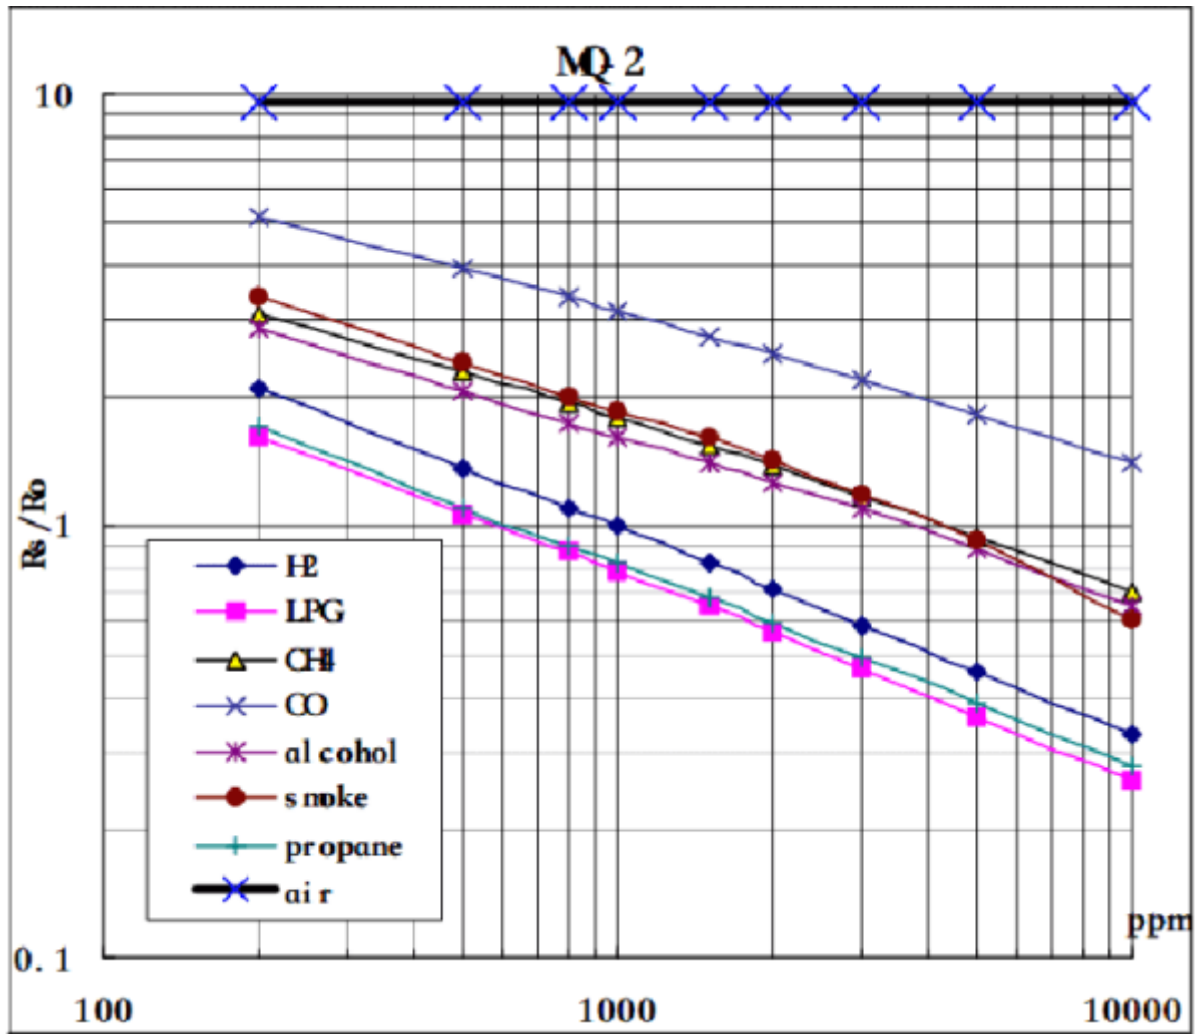

Figure 2.5 MQ2 Sensitivity characteristics. Source: <https://www.mouser.com/datasheet/2/321/605-00008-MQ-2-Datasheet-370464.pdf> }
The MQ-2 sensor functions as a voltage divider. The analog voltage output varies accordingly with the concentration of combustible gasses and its interaction with the oxygen, thus yielding a higher voltage proportional to the quantity of the present gas. The sensor cannot determine which gas is present, however the interaction with any of the possible measurable gasses creates a distinct pattern that has been provided by the manufacturers, shown in Figure 2.5. By creating a code that follows the guidelines set by the manufacturer design we can then measure with a small margin of error, the concentration of distinct types of gasses in the air simply by analyzing the resistance ratio of the sensor (R_S/R_0).²⁾
- Specified in Figure 2.5 and in the specifications of the manufacturer, the sensor can only read gas concentrations between 200 and 10000ppm.